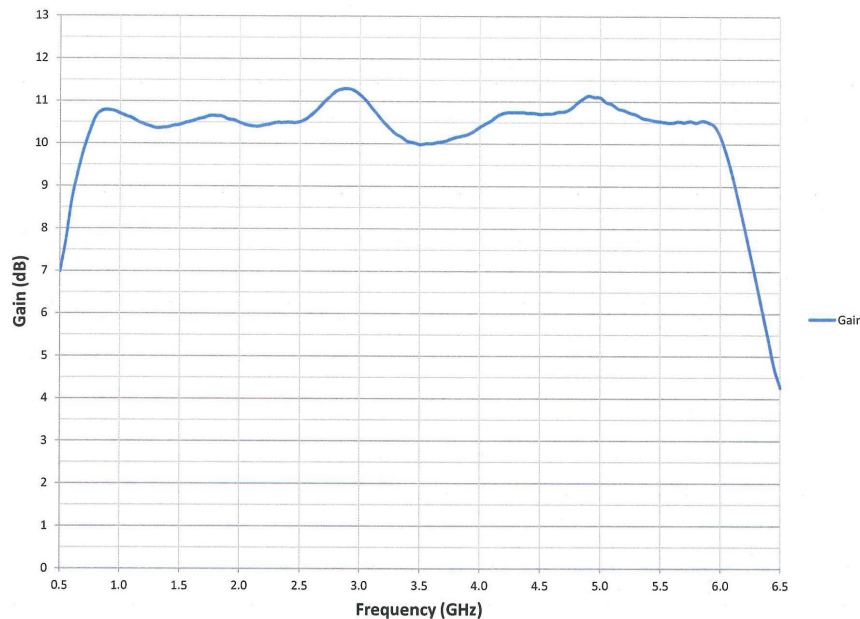

Figure 4-7. Typical Quad Amp Response
- If the response of the output stages (i.e., A4 Four-Way Splitter input to front panel RF output) is normal, check the response of the A3 Quad Amp (see Figure 4-7).
NOTE: The A2 Driver amplifier, and the A1 Preamplifier's response may differ considerably, particularly in flatness, from the typical response shown in Figures 4-7 and 4-8.